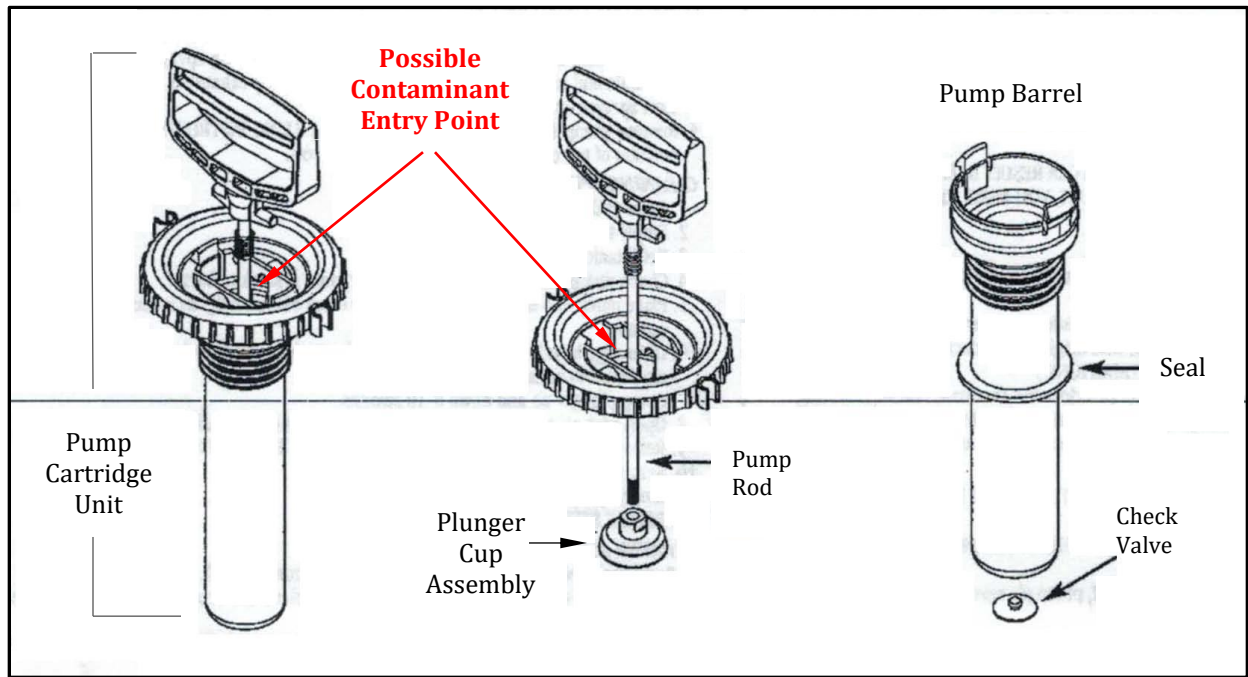

Figure 1
- 1) Remove the pump cartridge and insure there are no foreign objects / liquids in the top of the pump cartridge unit (reference figure 1).
- B. In such a way as to prevent foreign objects / liquids from entering at the top of the pump cartridge (figure 1). When the pump rod is actuated to pressurize the tank, these contaminants can be sucked into the cartridge and pushed into the tank. While the filter will remove solids, it cannot distinguish between other liquids.
Excessive hissing heard from pump cartridge under pressure	Check integrity of pump barrel seal in figure 1. If found serviceable, lubricate both sides with hydraulic oil or assembly fluid.
Fluid is expelled from pump barrel near handle	Replace pump barrel check valve in figure 1.
Actuation of pump handle fails to pressurize tank	Check for air leaks, if none found, change plunger cup assembly in figure 1.